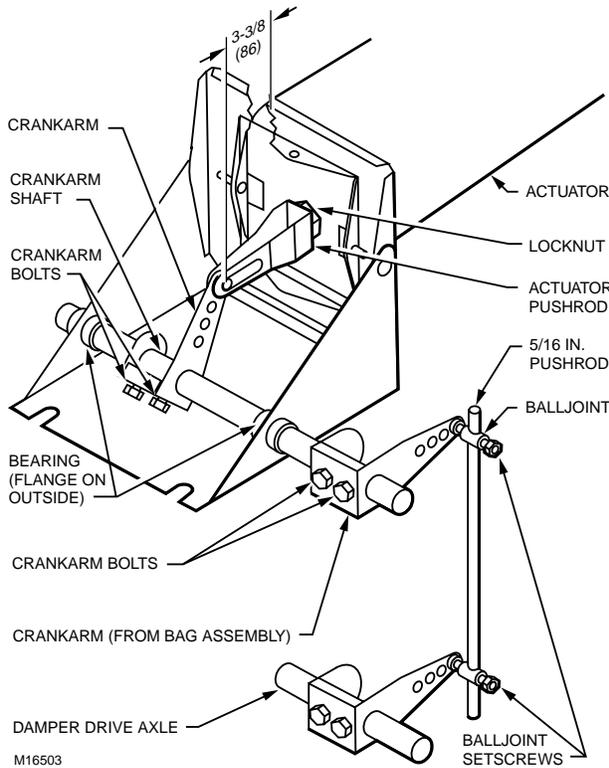

Fig. 21. Alternate Top-Mount Crankarm Installation.
7. Loosen locknut and screw or unscrew actuator pushrod to dimension shown in Fig. 21.
9. Fit white plastic bearings into place (Fig. 21) with flange on outside of mounting bracket.
10. Slide crankarm shaft through crankarm connected to actuator pushrod (Fig. 21).
NOTE: Crankarm shaft can be extended to either side (Fig. 21).
11. Tighten bolts on crankarm connected to actuator pushrod (Fig. 21).
15. Connect one crankarm from bag assembly to crankarm shaft extended end (Fig. 21).
16. Connect remaining crankarm to damper drive axle (Fig. 21).